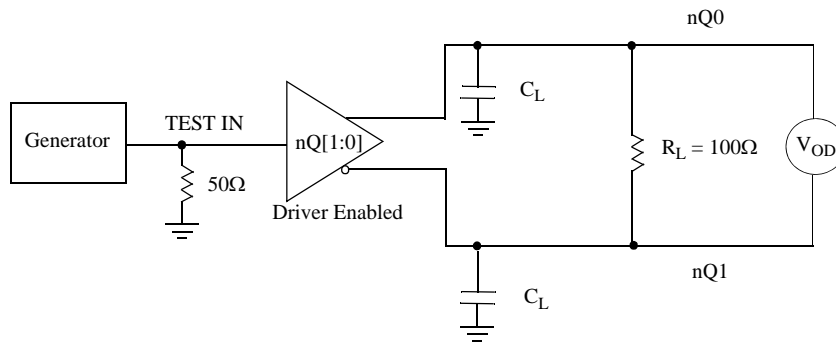

Figure 13. Driver V_{OD} and V_{OS} Test Circuit or Equivalent Circuit
- All outputs are equally loaded. See figure 13.
3. When measuring, use Figure 13.